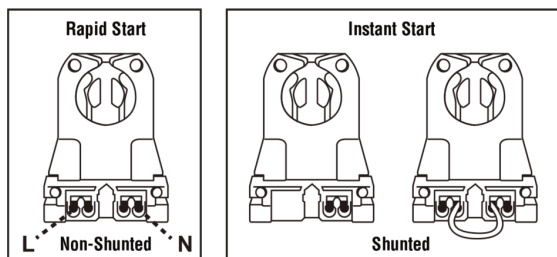

Fig:1 - Non-shunted & Shunted Lamp Holder
- 6) Ensure that the fixture contains non-shunted G13 bi-pin lamp holders (Fig. 1). If socket lamp holders are internally shunted, then replace with new non-shunted socket lamp holders. If socket lamp holders are shunted with a jumper wire, remove wire to convert into non-shunted sockets.